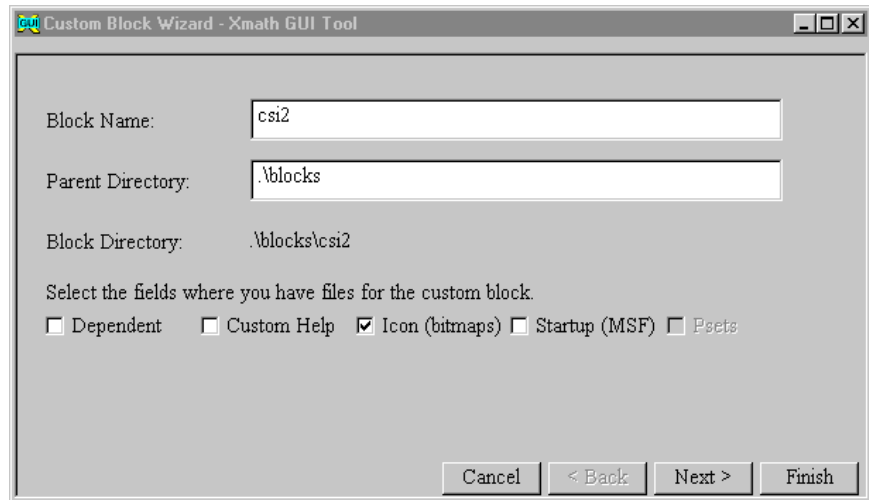

FIGURE 18-2 Custom Block Wizard Fields
- d. On the **Parent Directory** field, type in the location where the new custom block subdirectory will be created. The default is the current Xmath working directory. If you want your files to be portable, specify a relative path (as discussed in Palette Icon on page 18-7, and as shown in Figure 18-2). Press **Return** to update the **Parent Directory** field.